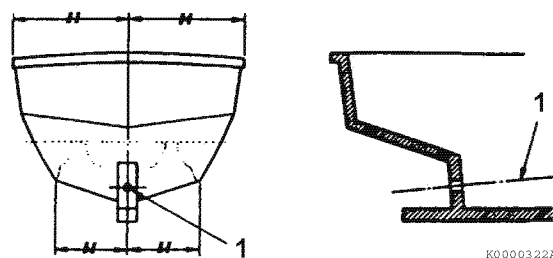
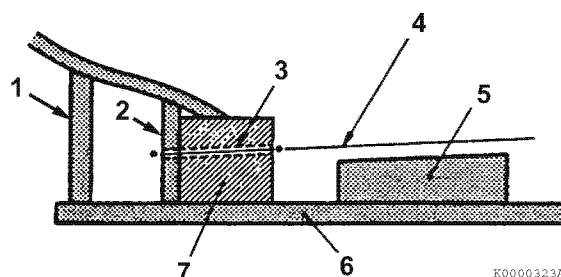

Figure 5-16
Figure 5-17
2. Drill a pilot hole smaller than the stern tube diameter (1, Figure 5-16), (7, Figure 5-17).
3. Pass a centering line (4, Figure 5-17) through the pilot hole (3, Figure 5-17) and fasten one end to the steering post (1, Figure 5-17) and the other end to the forward engine room bulkhead. Observe the positional relationship between the stringer system (5, Figure 5-17) and the centering line. Measurements must indicate symmetry. If not, modify as needed.
4. Measure the shaft angle between the hull floor and the centering line (6, Figure 5-17) and ensure that the angle is consistent with the specification.
5. Ensure that the propeller dimensions are compatible with the space between the steering post (1, Figure 5-17) and shaft penetration point (2, Figure 5-17).